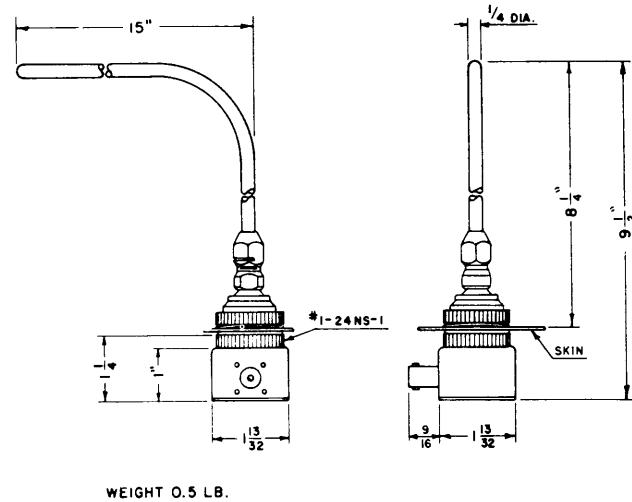

Figure 4—A.R.C. Type A-15 Antenna Dimensions
a. Preferred location: This antenna is designed for either top or bottom mounting. Since the A-15 only extends about 8 inches from the mounting surface on the aircraft, belly mounting is practical. The best radiation pattern is generally obtained with bottom mounting. With top mounting the radiation pattern is about the same as for the Type A-12. The comments pertaining to the other installation requirements of the Type A-12 also apply to the Type A-15. See Figure 4 for overall dimensions.